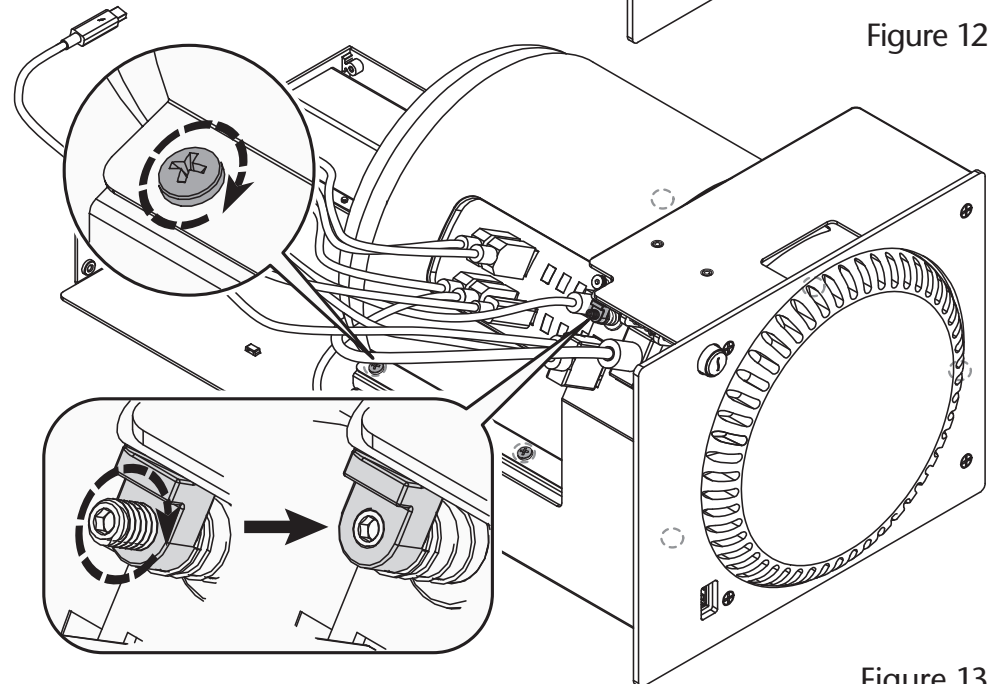

Figure 13
8. Tighten the six screws securing the computer mounting module's top bracket to its bottom bracket. Be certain to tighten the screws securely to prevent the computer from moving within the brackets (Figure 13).
9. Tighten the power button's set screw by turning it clockwise just until the top of the screw is flush with its housing (Figure 13).